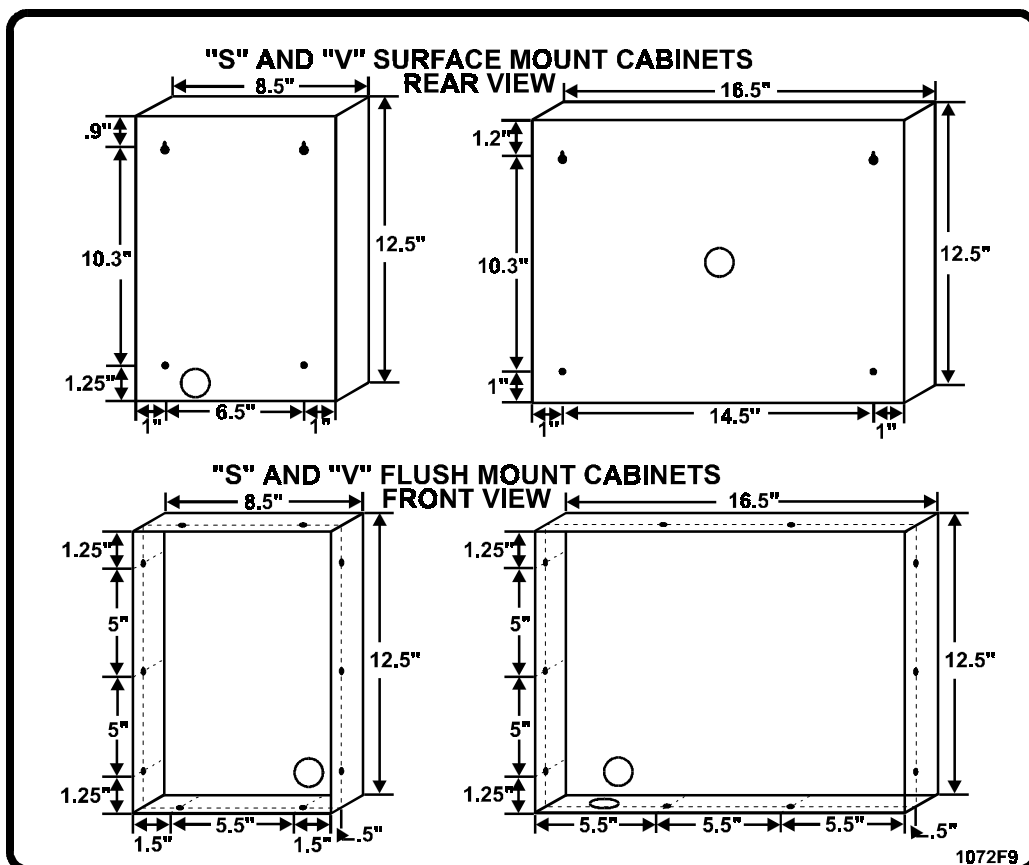

Figure 9. Mounting Ovation "S" and "V" Cabinets.
- b) Flush Mount Cabinets: Cut hole in wall (see Figure 9 for dimensions). Place cabinet in wall. Install and tighten ten screws to secure cabinet to wall.